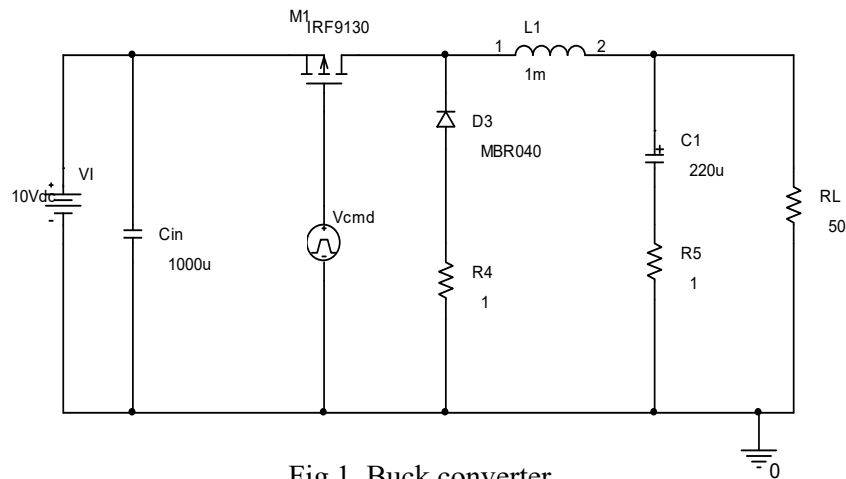

Fig.1. Buck converter
- For the circuit in Fig.1, supplied with $V_I=10V$, controlled with a rectangular signal v_{cmd} from the function generator, with an amplitude of 10V, frequency 33KHz and a duty cycle $\delta=50\%$, draw the waveforms of the following signals:
- Supply the circuit in Fig.1 with $V_I=10V$ and connect a load resistance $R_{L1}=50\Omega$. You will do this by connecting $J2$ with $J3$, $J4$ with $J5$, $J7$ with $J8$, $J11$ with $J12$ and $R1$ closed.
- For the circuit in Fig.1. with R_{L1} apply once again v_{cmd} with a duty cycle $\delta=50\%$. Copy the values for v_o and Δv_o obtained in section 1.2.